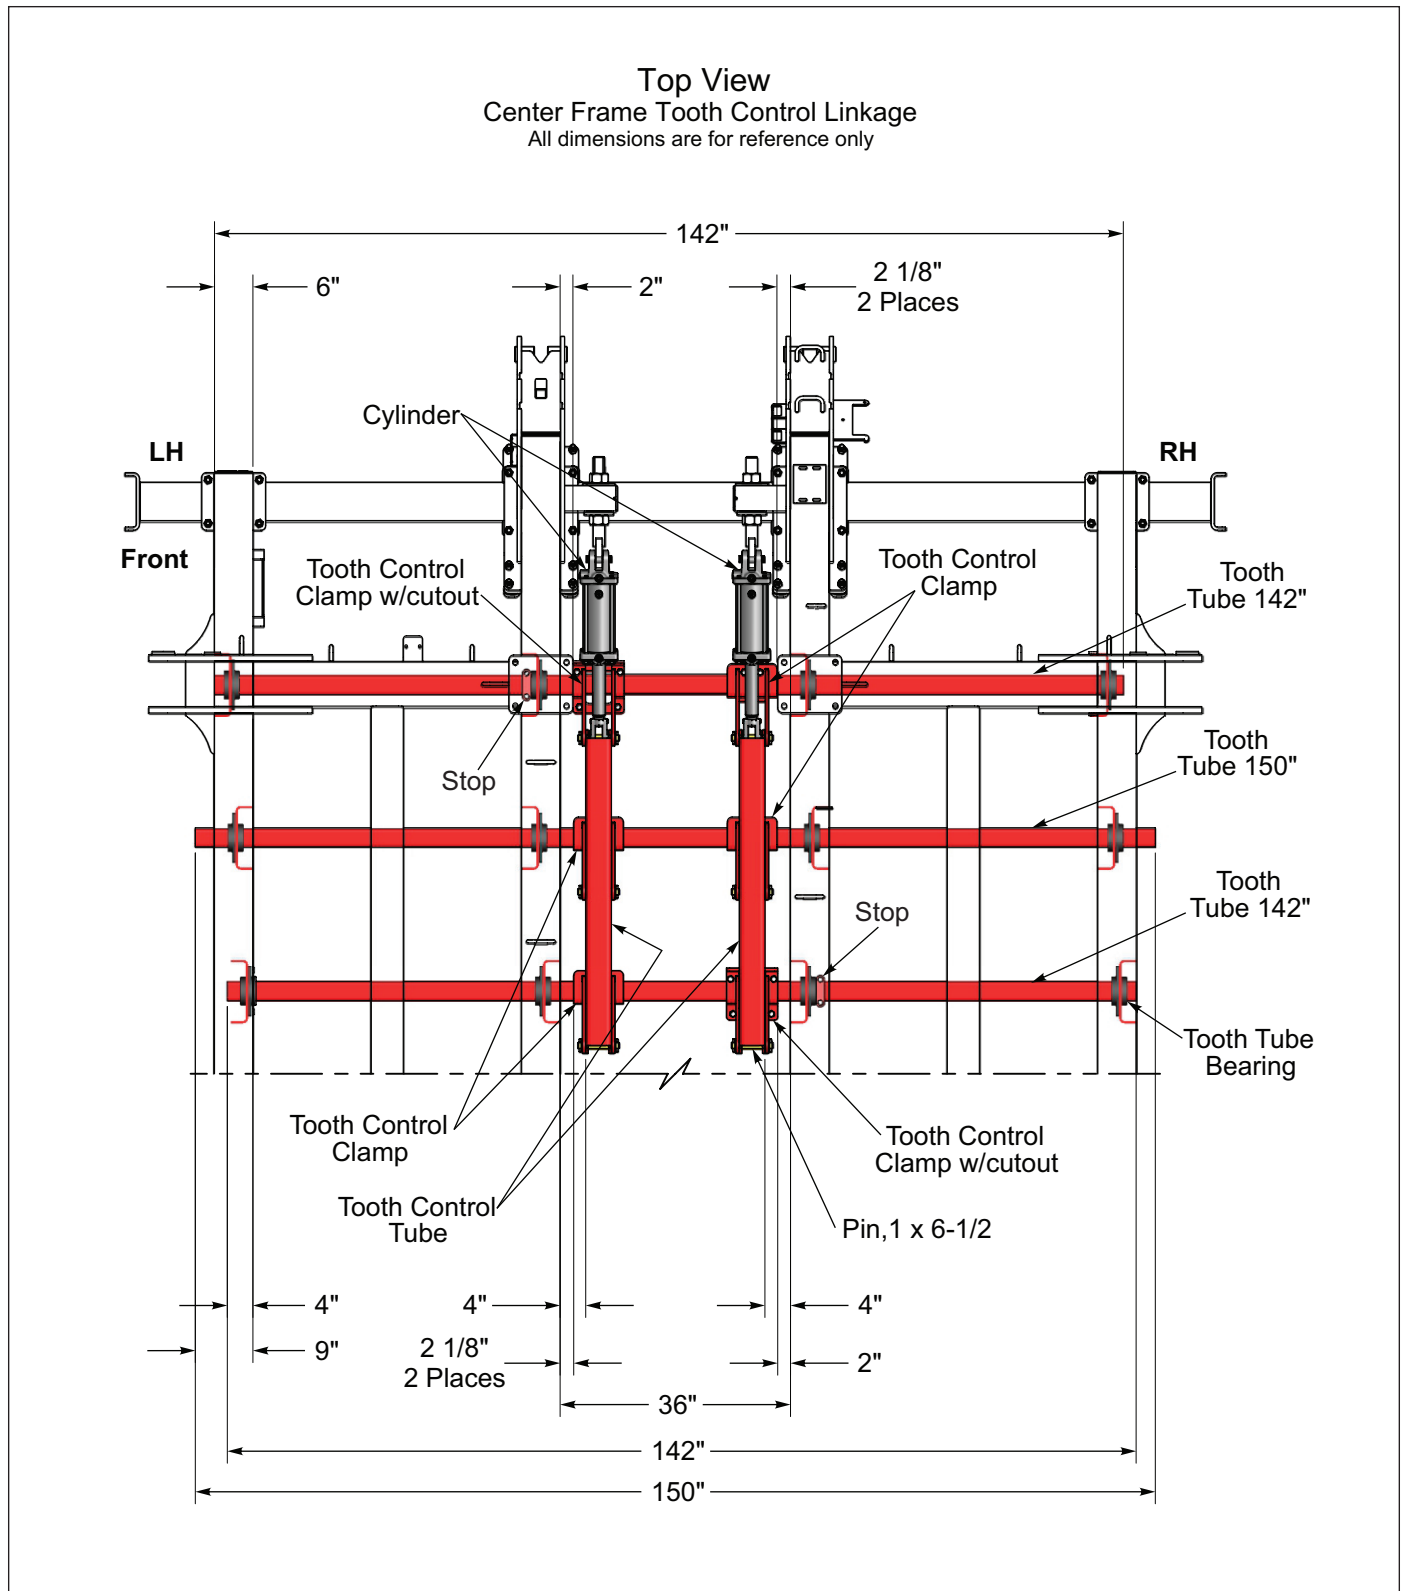

Figure 2-31: Center Frame Tooth Control Brackets Mounting Dimensions
2. Position Tooth Tubes in the proper lateral position to the frame before continuing. See Figure 2-31.
1. Attach a Tooth Control Clamp w/cutout to the left Front Tooth Tube by placing the Tooth Control Clamp on top of the Tooth Tube and a 4-Hole Plate under the Tooth Tube with two 5/8-11 x 5 Bolts and two 5/8-11 x 2 Bolts and Locknuts, **Do Not** tighten at this time. **See Figures 2-31 and 2-32.**
1. Attach a Tooth Control Bracket on the top of the right Front Tooth Tube by sliding a Clamp Plate into the Tooth Control Bracket Slot and under the Tooth Tube. Secure with 5/8-11 x 5 Bolts and Locknuts, **Do Not** tighten at this time. **See Figures 2-31 and 2-32.**
Ensure that both linkages don't bind and the Tooth Control Clamps and the Tooth Tubes are positioned correctly. **See Figure 2-31.** Tighten the Bolts and Nuts at this time.